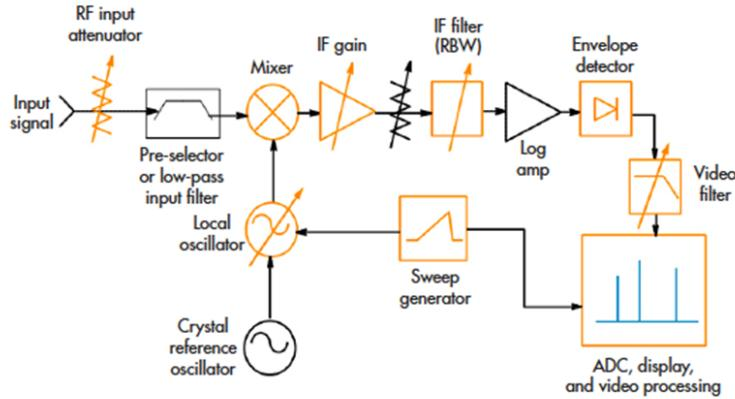

Figure 3: Simplified block diagram of a spectrum analyzer [2].
The basic working principle of a typical spectrum analyzer is conceptually quite simple2. It is basically a glorified high frequency signal receiver. Fig. 3 shows a very simplified system diagram of a typical spectrum analyzer, highlighting its major blocks. The input signal is downconverted to a much lower frequency (usually several MHz) before it is captured by a power detector. The downconverter is represented by a mixer with a sweeping local oscillator (LO). The LO signal is swept through a span of frequency that can be set by the user; this sets the frequency span of the measurement. The downconversion of the signal allows it to be optimally conditioned for the detection circuitry.